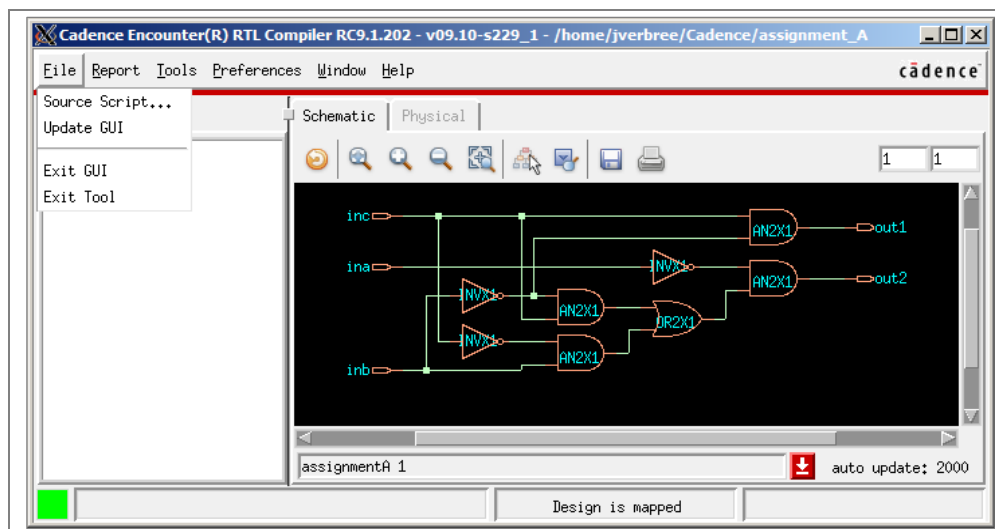

Figure 5: RC Screenshot of assignment 1 design
- Through the GUI window: Use the “source script” functionality (as depicted in Figure 5); select the appropriate file and hit OK to run the script.